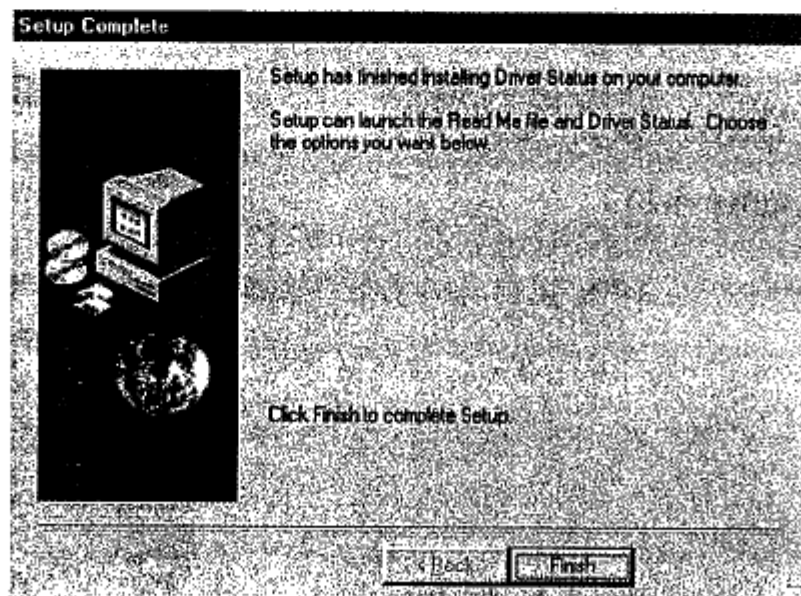

Figure 4-11
6. Click "Finish" to complete the installation of "Driver Status" as shown in Figure 4-11.